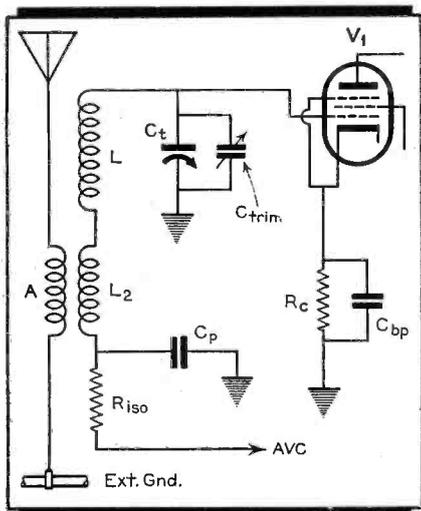

Fig. 7. The combined inductances of loop L and loading coil L_2 equal the single inductance L of the other figures.
Fig. 7 employs a loop (L) with a few turns and a high-Q loading coil in series with the lower end. This latter coil is inductively coupled to a primary which provides for an external antenna connection. This type of circuit lends itself particularly to multi-band receivers where the loop is used for the broadcast band only, but is also used in higher priced single-band sets.